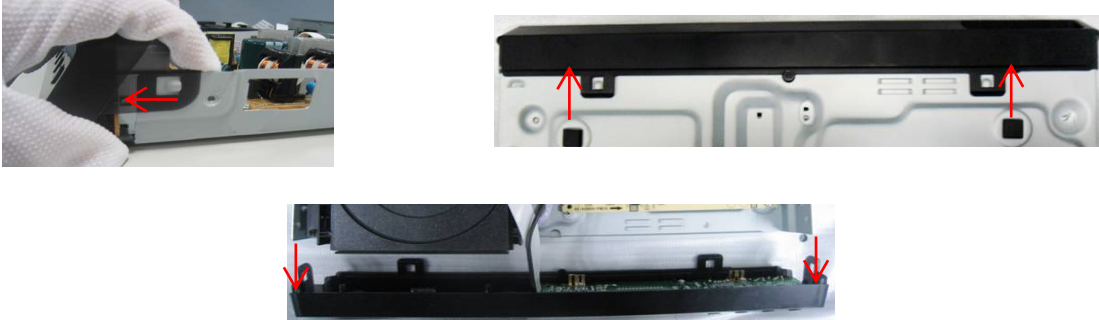

Figure 3
Step3 :Dismantle Front Panel, disconnect the connectors (XP6, XP605 .XP8), need release 2 snaps of Front Panel & 2 snaps of bottom cabinet , then gently pull the Panel out from the set. (Figure 3)